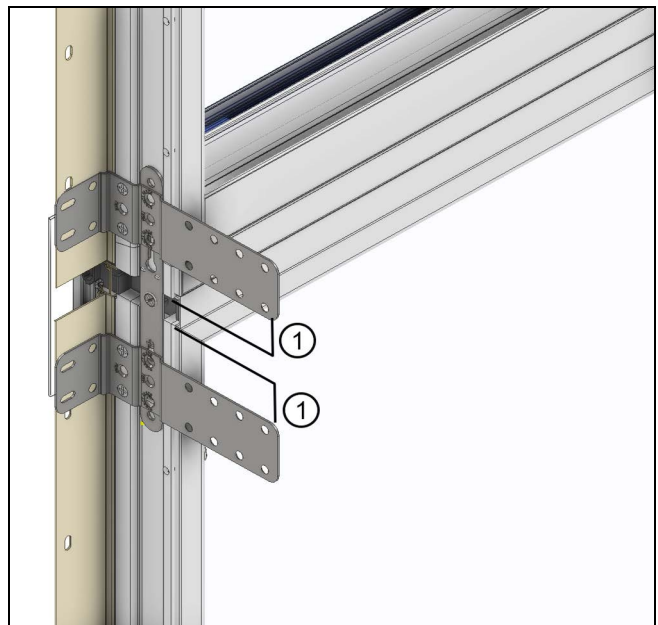

Figure 21
3. Apply nailing fin, nailing fin gasket connectors and structural brackets on the entire assembly. See Figure 21.